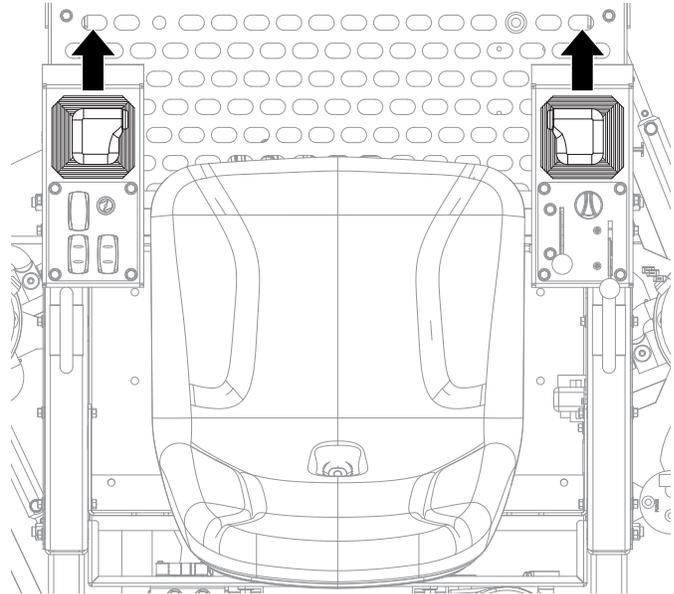

Figure 26. Joysticks (Forward)
3. Push both the left and right joysticks **forward** (Figure 26). Notice that the trowel begins to move in a forward direction. Release both joystick controls to stop forward movement, then remove your right foot from the foot switch to stop blade rotation.